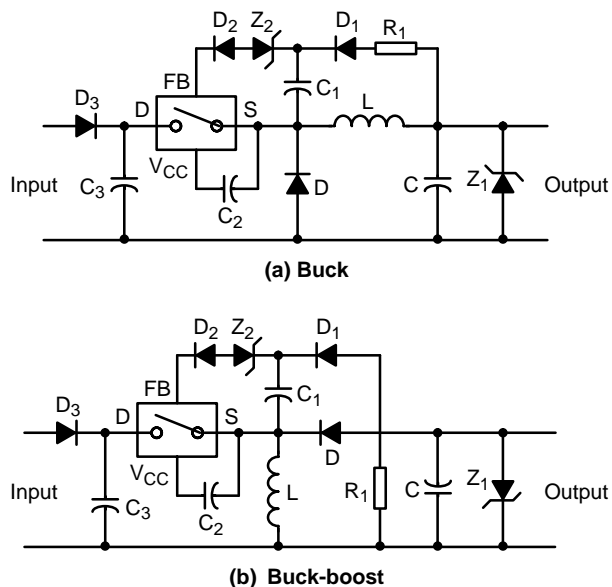
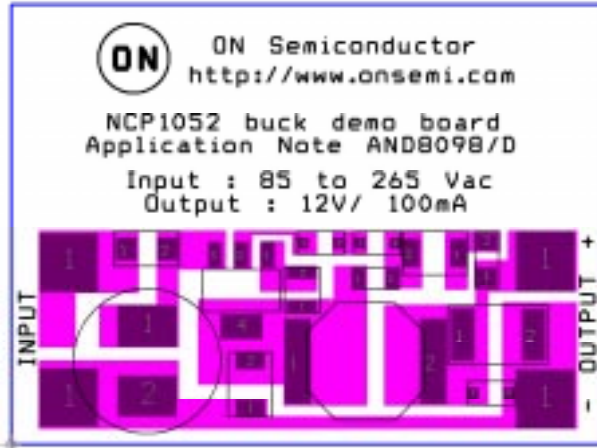

Figure 1. Proposed Circuit Using NCP1052
Figure 9. Layout of the Demo Board
Figure 1 shows the proposed buck and buck-boost converters. The rectifier circuit, which consists of capacitor C_3 and diode D_3 , is in the front end for AC or DC input voltage. Then, the NCP1052 is self-powered up from the rectified input voltage directly with a V_{CC} capacitor C_2 . When the switch inside the IC is opened, there is a voltage across Drain (D) and Source (S) pins of the IC. If this voltage is greater than 20 V, an internal current source $I_{start} = 6.3$ mA (typ.) inside the IC charges up C_2 and a voltage in C_2 is built up for the operation of the IC. Comparing to the switching frequency, the V_{CC} voltage level is in a lower-frequency 7.5-8.5 V hysteresis loop. This V_{CC} hysteresis loop is for frequency jittering features to minimize EMI and short-circuit fault timing function.
output voltage will rise up dramatically and burn the output capacitor eventually. Hence, a zener diode Z_1 or minimum “dummy” load resistor is needed to consume the minimum amount of energy as shown in Figure 1. It is also noted that when R_1 pulls up the output voltage at a given output current condition, the output voltages at lower output current conditions are also pulled up. Hence, the clamping zener diode Z_1 is needed to be with the breakdown voltage as same as the output voltage but it will reduce some of the efficiency at lower output current conditions.
As shown in Figure 9, a 2 inch by 1.5 inch small surface-mount demo board of 12 V / 100 mA buck is presented. The design is made on a single-sided board. The bill of material is shown in Table 2. The component symbols are those in Figure 1. In order to have sufficient startup ability, the V_{CC} capacitor is 6.8 μ F which gives a 3.4 ms fault sampling time. Because of this feature, the circuit enters fault mode when output current exceeds 200mA after startup as shown in Figure 10(b). The efficiency of the circuit is typically 65% at 100 mA.